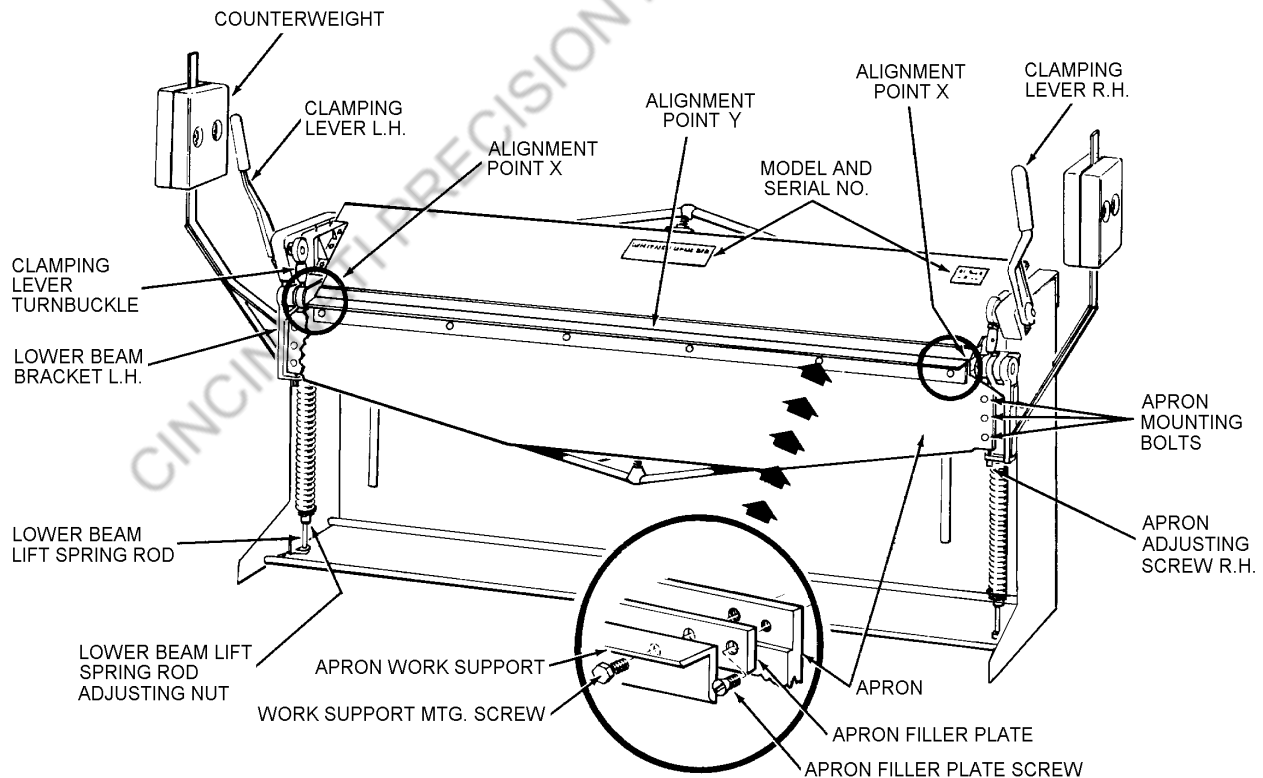
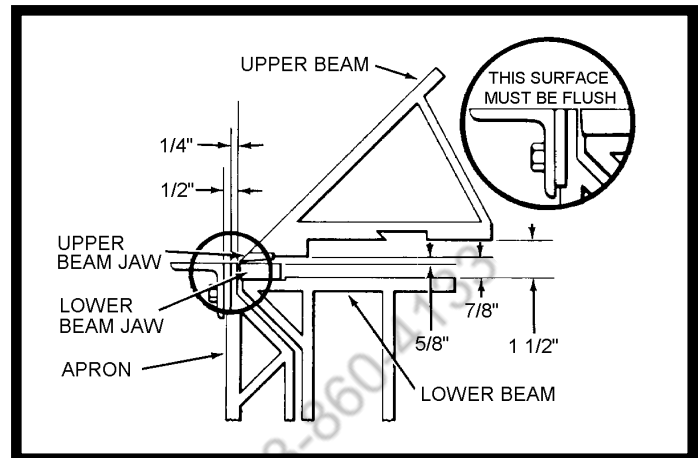
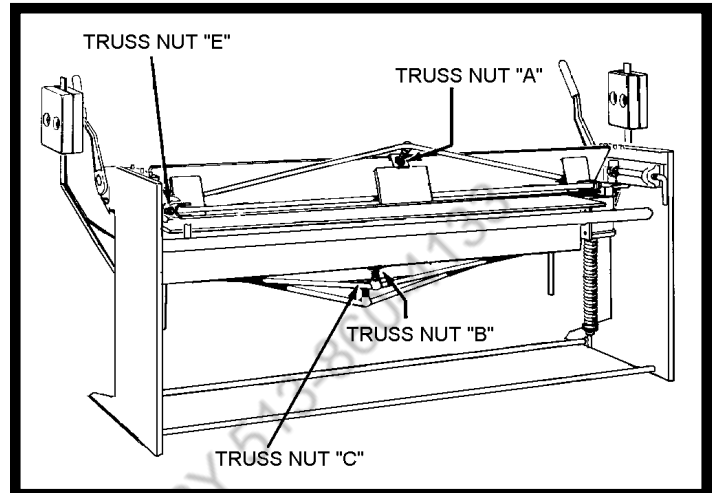

Figure 2. Front View of Brake
Figure 3. Reference Dimensions
Figure 7. Rear View of Brake Showing Tension Adjustment Points
1. Apron angle iron work support (see figure 2) is removed.
2. **ADJUSTMENTS FOR BOWING:** (Refer to figure 7 for location of Truss Nuts).
SOLUTION: Tighten Truss Nut (B). Level the Apron with the Lower Beam Jaw (see figure 3).
If 90° sample bend is true at both ends but less than 90° at center of piece, loosen Apron Mounting Bolts (figure 2) and lower the Apron approximately 1/32" by unscrewing the Apron Adjusting Screws. Retighten the Apron Mounting Bolts and tighten Truss Nut (C, figure 7) until both jaws of brake are flush at brake center (see figure 3).
The opening between the brake jaws may be increased to a maximum of 1 5/8". With the Clamping Levers in the unlocked position, turn the Lower Beam Lift Spring Rod Adjusting Nut (figure 2) at each end of brake downward until the desired opening is obtained.
1. Loosen all Truss Nuts (A, B, C, E, figure 7)
2. Tighten Truss Nut (B) until snug. Tighten an additional three complete turns.
3. Check Apron at the alignment points (X, figure 2) to see if it is flush with top of Lower Beam Jaw (see inset, figure 2). Up and down movement of the Apron is controlled by turning the Apron Adjusting Screw (figure 2) at each end of the Apron.
4. Tighten Truss Nut (C, figure 7) until Apron is flush with Lower Beam Jaw at alignment point (Y, figure 2).
5. Tighten Truss Nut (E, figure 7) as tight as possible.
6. Tighten Truss Nut (A) until the Upper Beam Jaw is straight and parallel in relation to the Lower Beam Jaw.
Remove Apron Angle Iron Work Support and Apron Filler Plate (inset, figure 2). This permits 1/4" reverse bends to be made on all brakes except Model Nos. 812, 1012, and 1214 will make a reverse bend of 3/8".
2. Increase the distance between the brake jaws by turning the Lower Beam Lift Spring Rod Adjusting Nut (figure 2) at each end of brake downward as far as it will go.